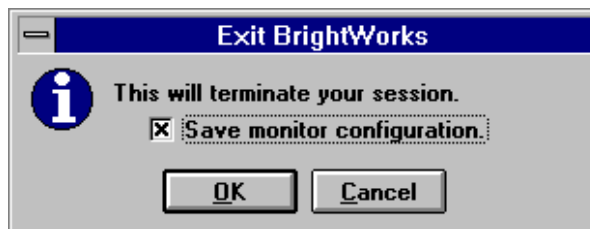

Figure 3-1: BrightWorks' Exit Prompt
- **[DisableExitPrompt]** - This section can be manually added to the INI file in order to disable the prompt which displays upon exiting BrightWorks. This prompt allows you to save the configuration of any open metering windows. (Refer to Figure 3-1 in the section above entitled "Exiting BrightWorks.") To disable the exit prompt, add the following section to the BWORKS.INI file: